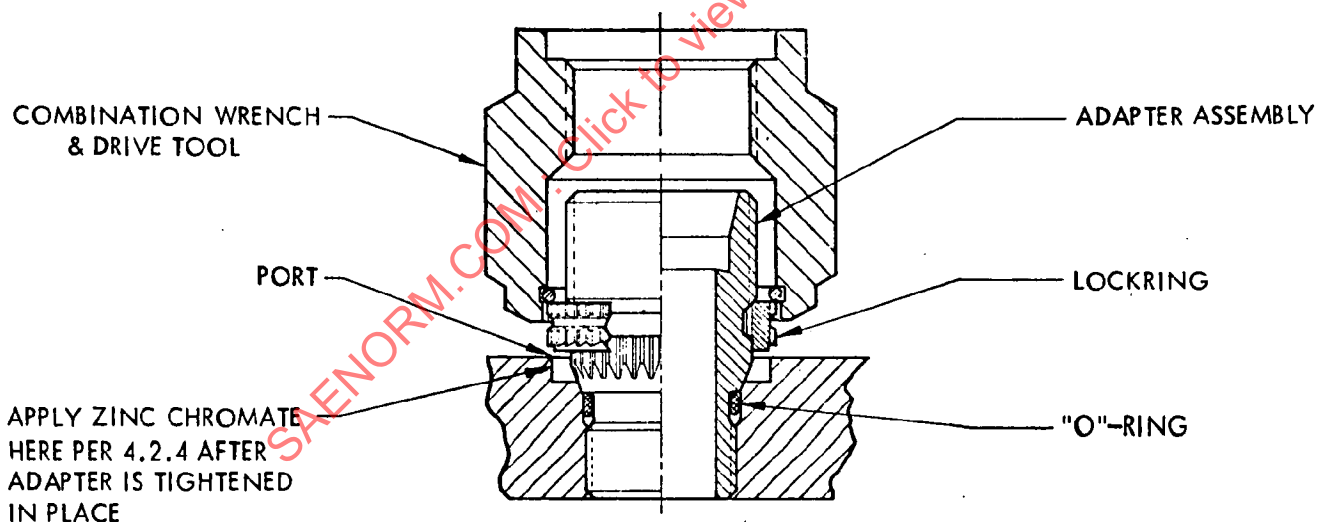

FIGURE 3
- 4.2.3 Using the applicable combination wrench and drive tool in Table II, engage the serrations of the tool with those on the external serrations of the adapter locking per Figure 3. Place a torque wrench of the proper size over the hex of the wrench and apply a torque equal to the minimum value specified in Table II. Note the relationship of the serrations of the locking with respect to the prebroached serrations in the port. If they match, proceed to 4.2.4. If the serrations do not match the prebroached serrations in the port, continue to slowly torque the adapter toward the maximum value allowed in Table II until the serrations of the locking match the boss serrations. This will normally take between 3° and 8° of turning and the maximum value need not be reached if the serrations align themselves prior to that value. Do not exceed maximum torque values.